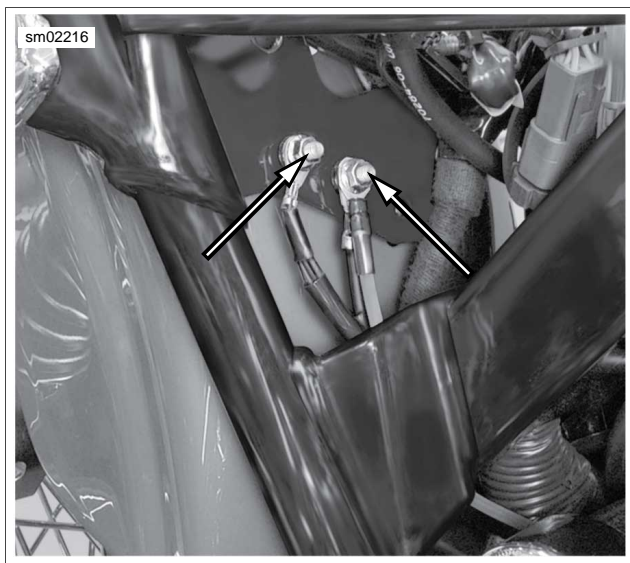

Figure 8-73. Vehicle Ground Studs
16. See Figure 8-73. Remove ground wires from studs on frame.